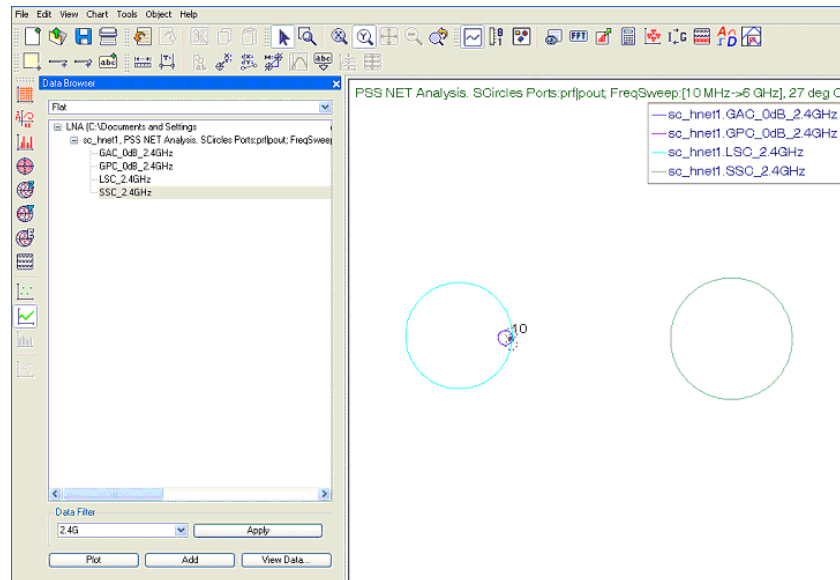

Figure 14: Gain, Power Gain, and Stability Circles
3.7: To display the Gain, Power Gain, and Stability Circles over a single frequency, use the **Data Filter** to filter out the desired single frequency and click **Plot**. On Figure 14 LNA circles for the frequency 2.4GHz are shown.